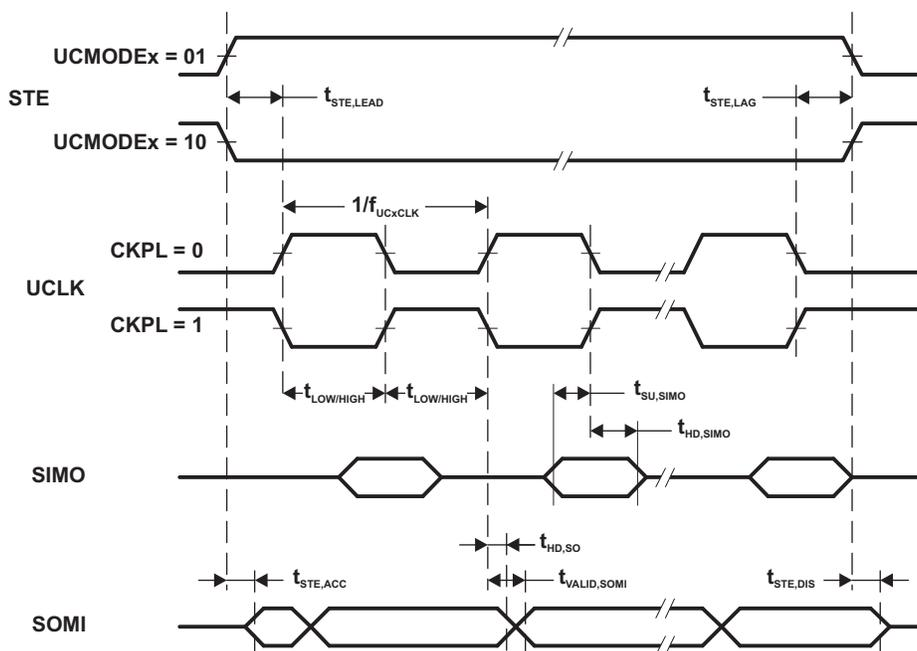
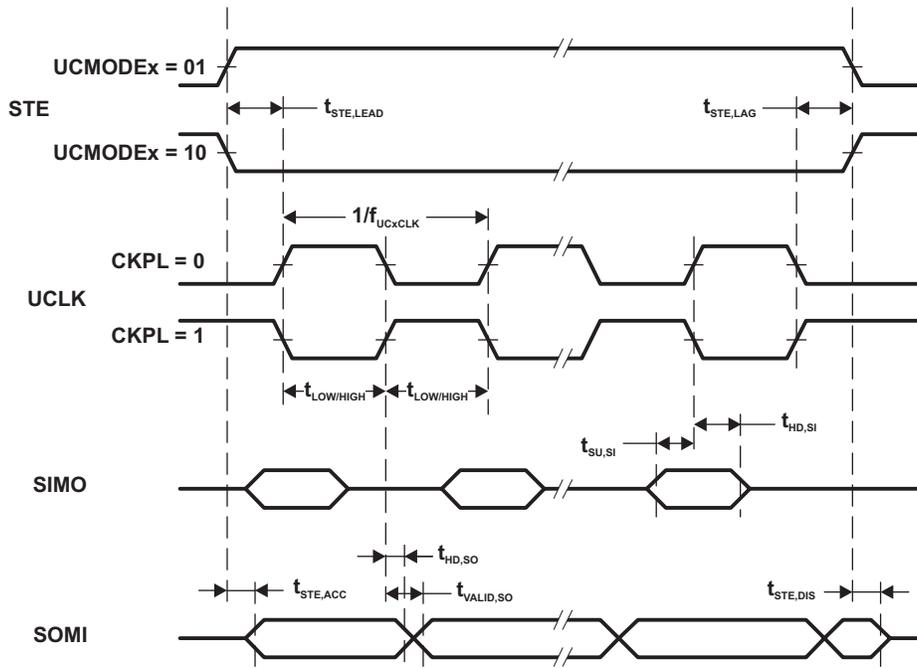

Figure 17. SPI Slave Mode, CKPH = 0
Figure 18. SPI Slave Mode, CKPH = 1
- (1) $f_{UCxCLK} = 1/2t_{LO/HI}$ with $t_{LO/HI} \geq \max(t_{VALID,MO(Master)} + t_{SU,SI(eUSCI)}, t_{SU,MI(Master)} + t_{VALID,SO(eUSCI)})$. For the master's parameters $t_{SU,MI(Master)}$ and $t_{VALID,MO(Master)}$ refer to the SPI parameters of the attached slave.
- (2) Specifies the time to drive the next valid data to the SOMI output after the output changing UCLK clock edge. Refer to the timing diagrams in Figure 17 and Figure 18.
- (3) Specifies how long data on the SOMI output is valid after the output changing UCLK clock edge. Refer to the timing diagrams in Figure 17 and Figure 18.